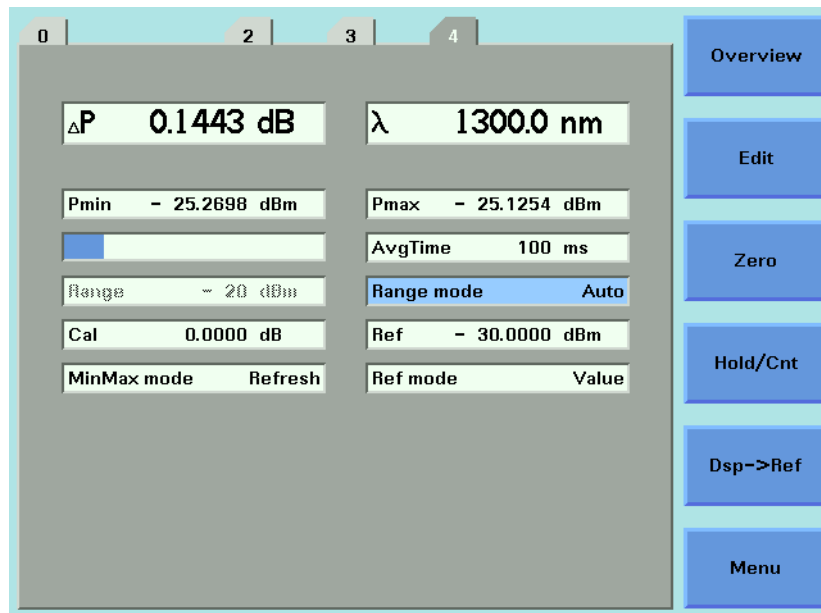

Figure 54 MinMax Mode Screen
- 3 Move to *<Refresh>*, by using the cursor key, and press *Enter*. The screen in Figure 54 appears.